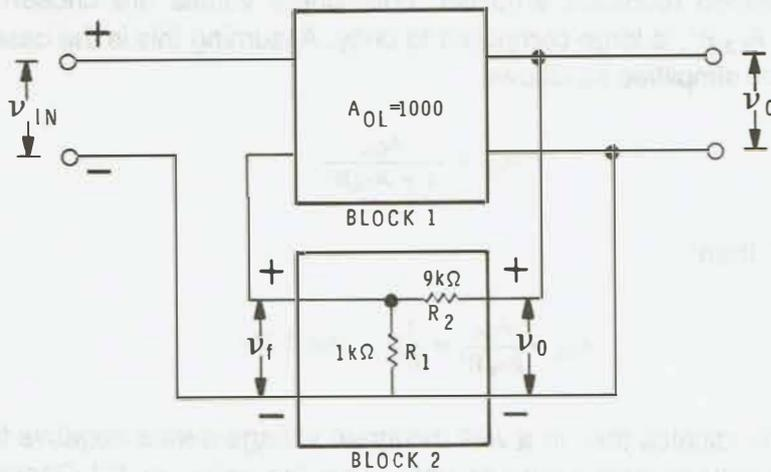

Figure 6-29
A noninverting amplifier has an open loop voltage gain of 1000. This amplifier is employed as one block of a voltage-series feedback amplifier as shown in Figure 6-29. Here, note that the details of the feedback network contained in block 2 are provided.
- (a) In Figure 6-29, v_f as determined using voltage division, is:
The noninverting amplifier in Figure 6-29 has an input resistance of $2\text{k}\Omega$ and output resistance of $5\text{k}\Omega$. Calculate the input resistance and output resistance of the feedback amplifier.